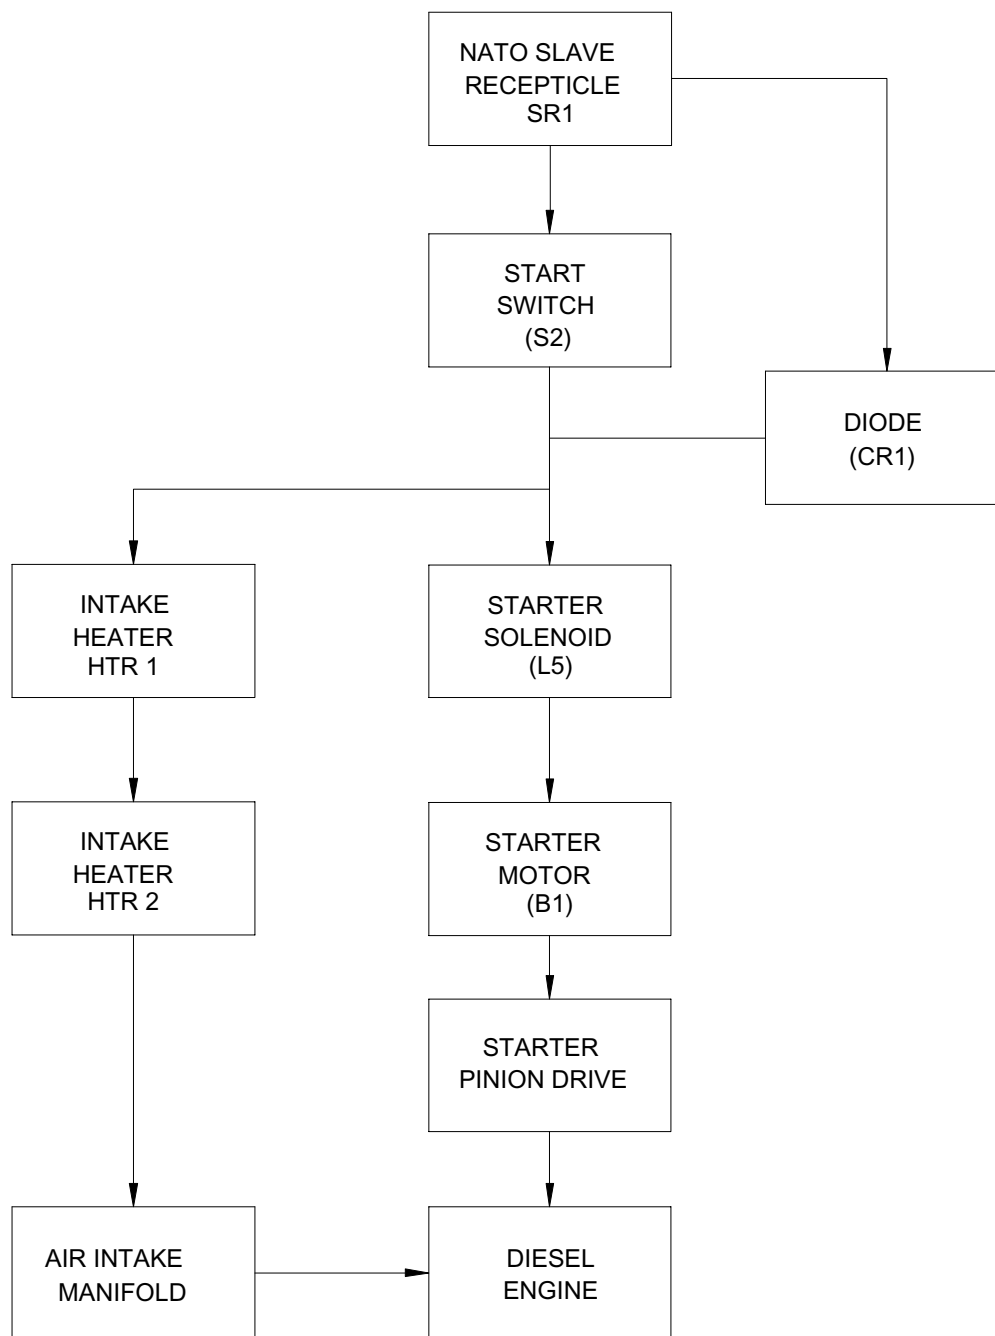

Figure 1-6. Diesel Engine Electrical Starting System
1.20.1 Electrical Starting. The diesel engine electrical starting system (Figure 1-6) can be used to start the diesel engine whenever there is an external 24 VDC power source connected to the NATO slave receptacle. The electrical starting system will be required when starting the diesel engine in extremely cold weather or as a backup to the manual starting system (recoil mechanism failure). The electrical system also provides a means for warming diesel engine intake air which also helps to start the engine in cold weather. The system consists of a NATO slave receptacle (SR1), START-PREHEAT/PREHEAT/OFF/START switch (S2), diode (CR1), an engine-mounted starter motor (B1) with solenoid (L5), and two resistance heater elements (HTR1 and HTR2).